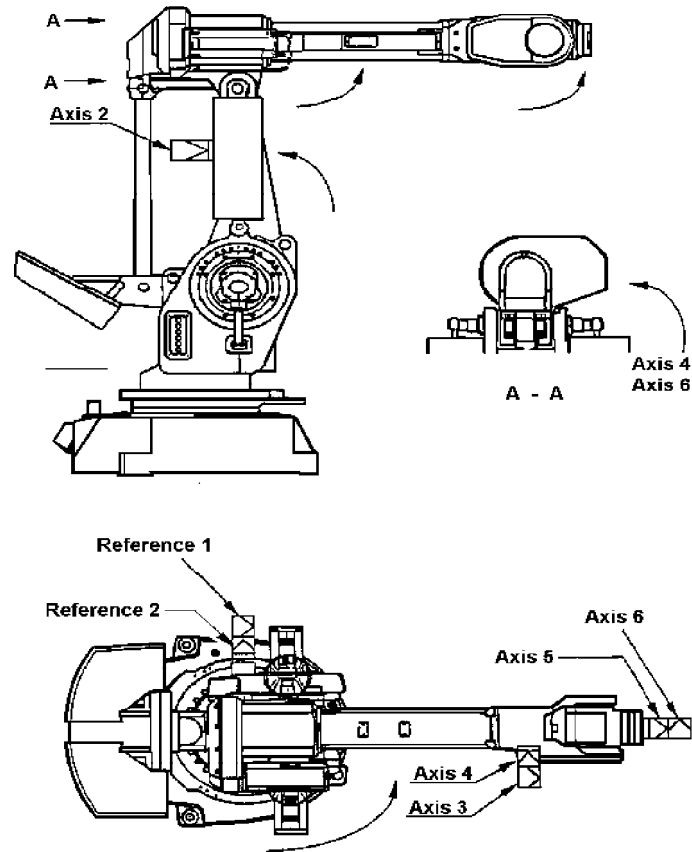

Figure 3 - Movement Directions for Calibration, Reference Surface
12. Mount inclination instrument (6807 081-D). One sensor is to be mounted on the reference plane and the other on the elbow fixture for Axis 2. Both sensors are to be positioned in the same direction. See also Figure 3.
13. Press the enabling device and operate the joystick manually in the directions in Figure 3 until the digital leveling gauge indicates zero. The gauge should read 0 ± 12 increments (0.3 mm/m).
The reason the calibration position is always adjusted in the directions shown in Figure 3 is that friction and gravity forces work together against the direction of movement. This simplifies adjustment.